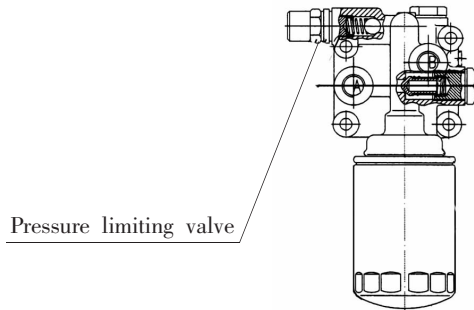

Fig 5-37 Oil Pressure Adjustment
4.5 When oil pressure is up or blow regulated values, may adjust pressure through regulatory valve in a small range. Turn in clockwise to increase pressure, turn in anti-clockwise to reduce pressure (see Fig 5-37).